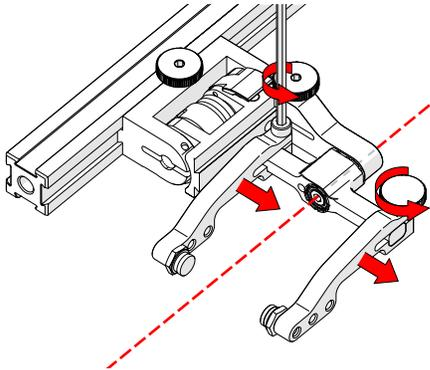

Fig. 152 - Adjust probe holder arms
5. Loosen the probe holder arm adjustment knob (Fig. 152) and remove outer probe holder arm from yoke.
6. Adjust inner probe holder arm as required to best centre the probe on the yoke's pivot axis (Fig. 152).
TIP: The probe holder yoke can accommodate many different probe and wedge sizes of varying widths. It is best to centre the wedge with the yoke's pivot axis to reduce wedge tipping when scanning. Position the inner probe holder arm accordingly with the centre of the yoke (Fig. 152).